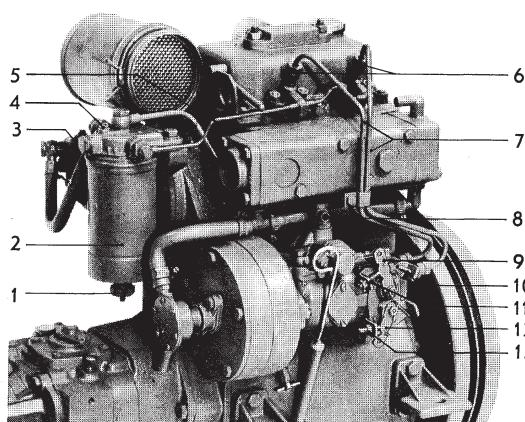

Fig. 20. Fuel system
**Change the fine filter after every 100 hours running, or at least once each season.** Thoroughly clean the whole of the outside of the filter body (see 2, Fig. 20). Screw loose the filter container by turning the hex head at the bottom of the container. The fine filter with container is of the throw-away type and for this reason the old filter should be scrapped and a new one fitted.
1. Open the vent screw on the fine filter, 4, Fig. 20.